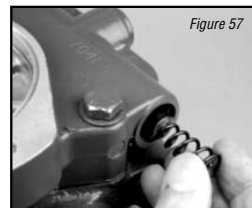

Figure 57
**30** Coat the charge pressure poppet with petroleum jelly and place poppet onto spring and install into the adapter plate (see Figure 57).